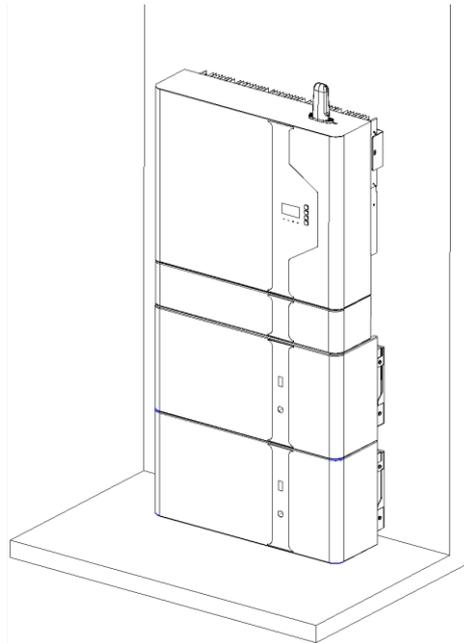

Figure 7.28
- (1) After the installation of CB cover, confirm whether the CB cover is level with the battery surface. If not, remove the inverter and use the insulation sheet in the accessory package to stick it to the limit bracket (the insulation sheet can be used)
- (2) To proceed with the above steps, the decorative pieces of M4856-P should be installed first (Figure 7.28).